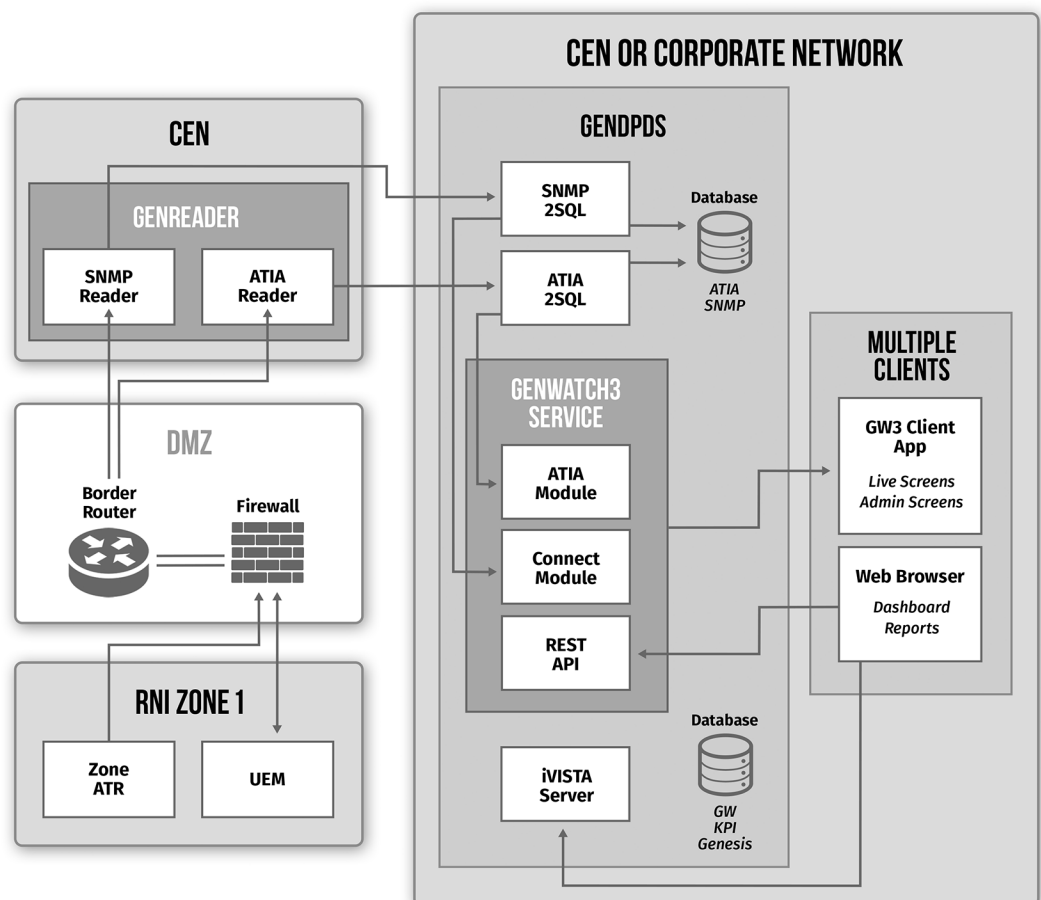

Figure 1: Basic Single Zone System Diagram with UEM
Figure 1 shows what a basic single zone system diagram with GW3 UEM would look like. The Motorola UEM port sends the SNMP traps, again through the NBI, to a GW3 Reader (Reader). The Reader listens for that data via UDP and passes it to the GW3 Data Processor (DP) as TCP/IP. The DP then takes the packets, parses them out, and sends them to the GW3 Data Server (DS), which writes the information into SQL datatables. The DP also provides the data feed to the GW3 Host (Host) for the desktop application Modules and iVISTA. All GW3 Clients connect to the Host. If connection issues arise between the Reader and the DP, the Reader will buffer for about 30 days to avoid losing any data.